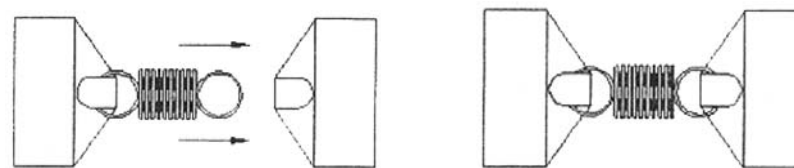

FIGURE 1
3. Wrap the heater around the drum. Extend the spring attached to the metal tab; latch the spring loop onto the hook on the opposite side as shown in **Figure 1**.